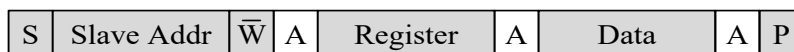

Figure 3-21 Write Data format
- Write data (Figure 3-21) :
- 1) Master sends Start condition (S)
- 3) Slave sends 1bit ACK (A) response
- 5) Slave sends 1bit ACK (A) response
- 7) Slave sends 1bit ACK (A) response